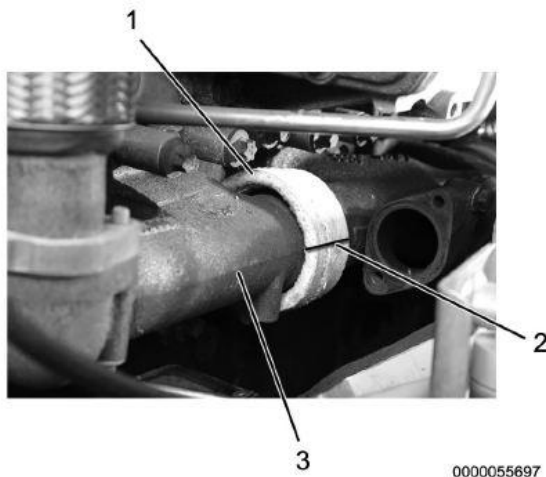

Figure 10: Rear Exhaust Manifold Ring Seal Ceramic Mat Wrap
23. Wrap manifolds and seal packing with ceramic mat wrap, covering seal packing with thick end of ceramic mat wrap (**Figure 10**, Item 1).
24. Align ceramic mat wrap joint (**Figure 10**, Item 2) with manifold midpoint (**Figure 10**, Item 3).